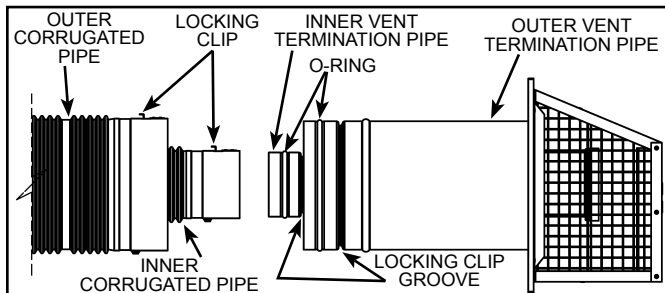
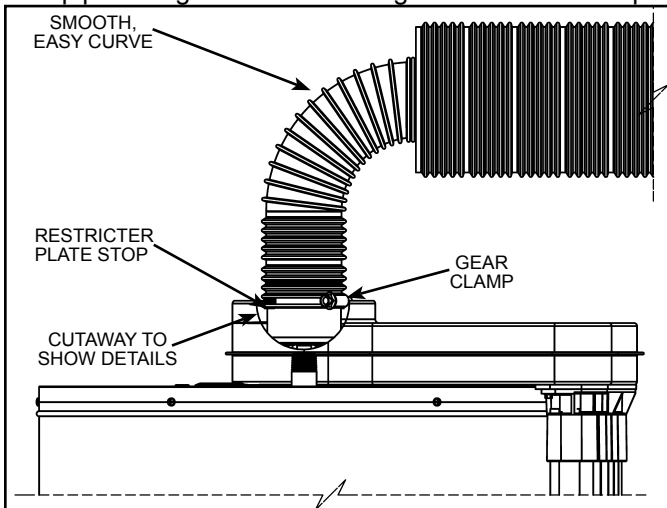
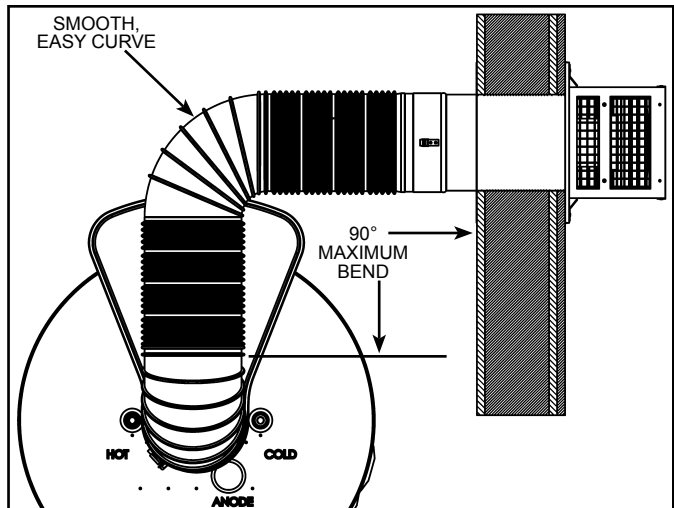
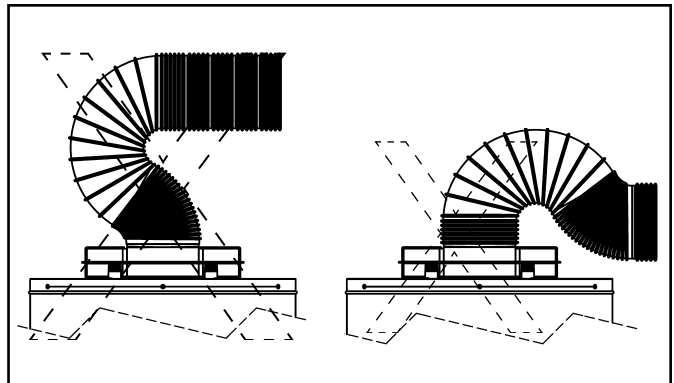

Figure 18
Figure 23
Figure 25
Figure 26
Figure 18 thru Figure 25 show how to assemble and connect the venting system.
- Do not use the restrictor plate in an offset installation (see Figure 25).
To connect the vent piping to the vent termination hood, first slide the inner (3") corrugated pipe over the inner vent termination pipe. Continue this action until the locking clip on the corrugated pipe snaps into position in the corresponding groove (see Figure 18). Secure corrugated pipe with screw (supplied) inserted through hole opposite the locking clip.
Repeat this process with the outer (6") corrugated pipe and lock it into position on the outer pipe on the vent termination (see Figure 18). Secure corrugated pipe with screw (supplied) inserted through hole opposite the locking clip.
Bend both the corrugated pipes toward the flue connection on the water heater. Pull and connect the inner corrugated pipe to the water heater's flue tube reducer with hi-temp red silicone (included) and gear clamp. Make sure this connection is tight and leak proof (see Figure 23).
Note: To ensure good exhaust gas flow, bend vent piping using a smooth, easy curve as shown in Figure 23 thru Figure 25. Do not use reverse or compound curves as shown in Figure 26.